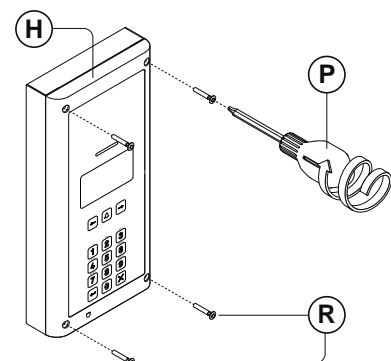

Fig. 45
9. After the system has been tested and is working correctly, move back the module support frame **(H)** carefully and then fix it to the surface box **(C)** using the screwdriver provided **(P)** (using the torx end) and the torx pin security screws provided **(R)** , as shown in **Fig.45**. **Note: do not over tighten the screws more than is necessary.**